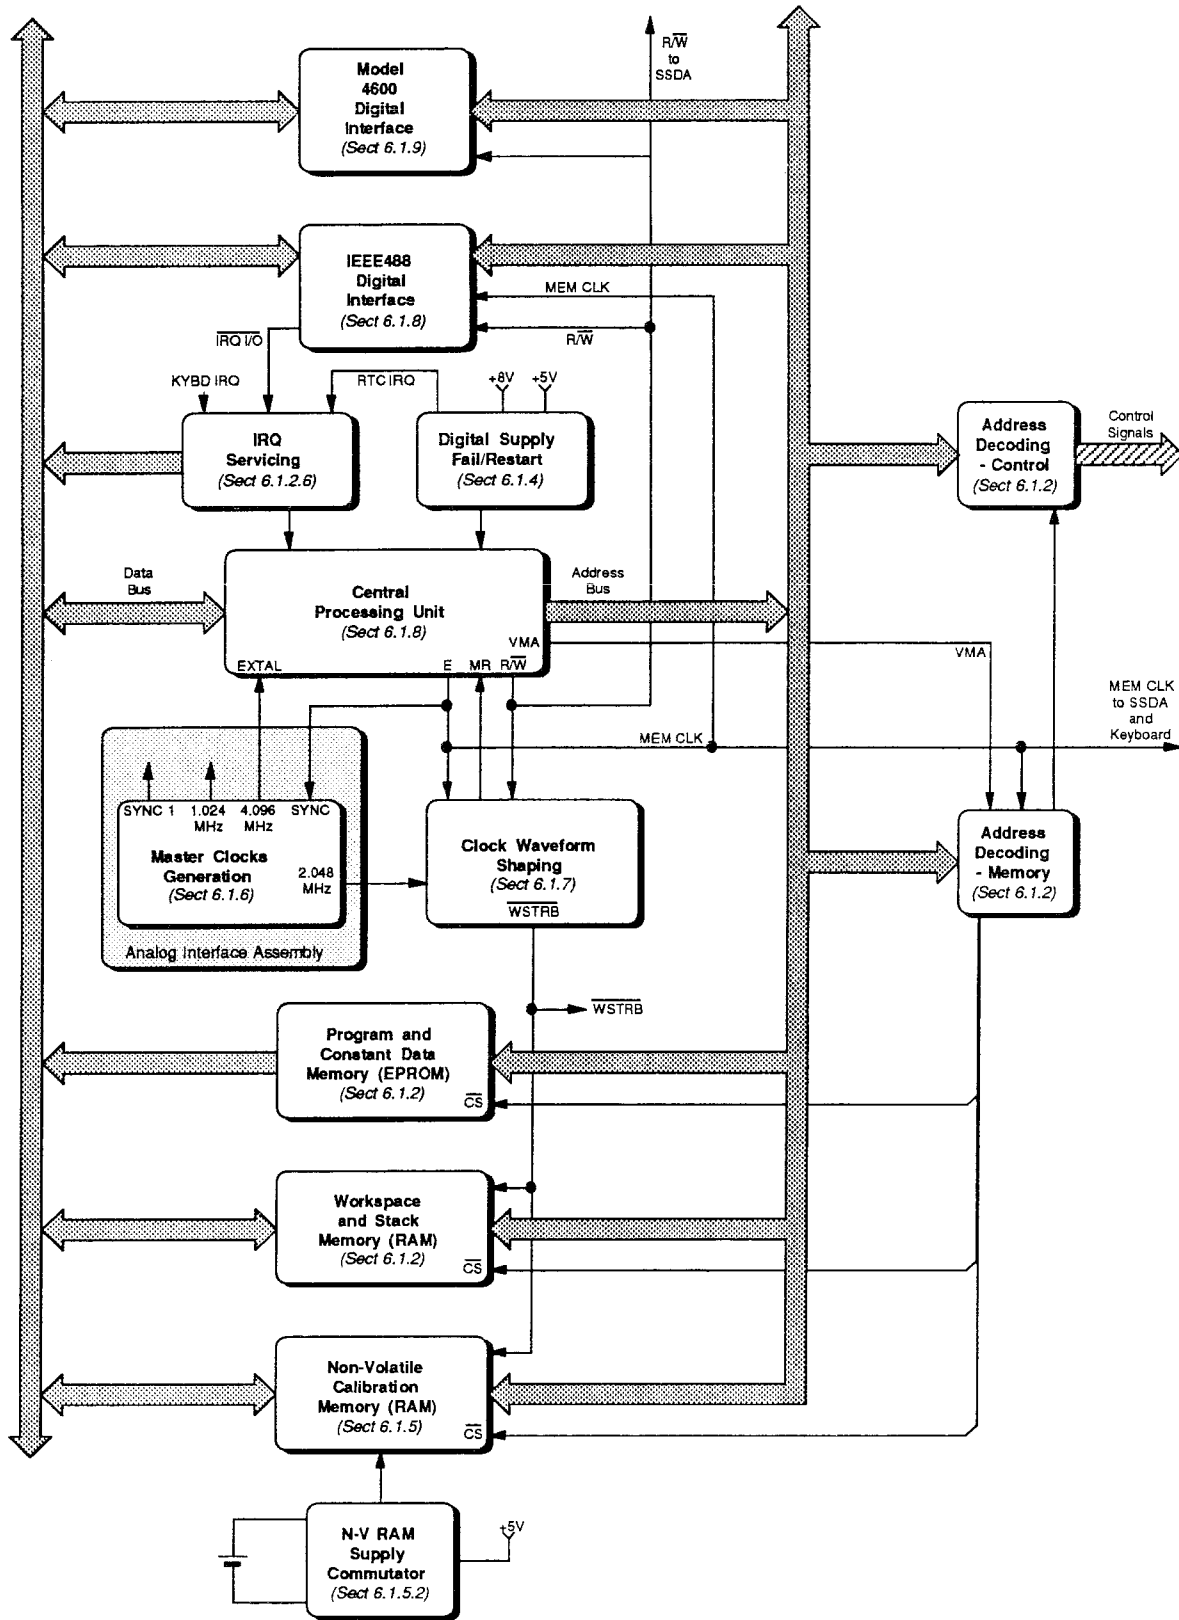

FIG. 6.1 DIGITAL FUNCTION BLOCK DIAGRAM
*Fig. 6.1* shows the arrangement and main interconnections of the central digital circuits.